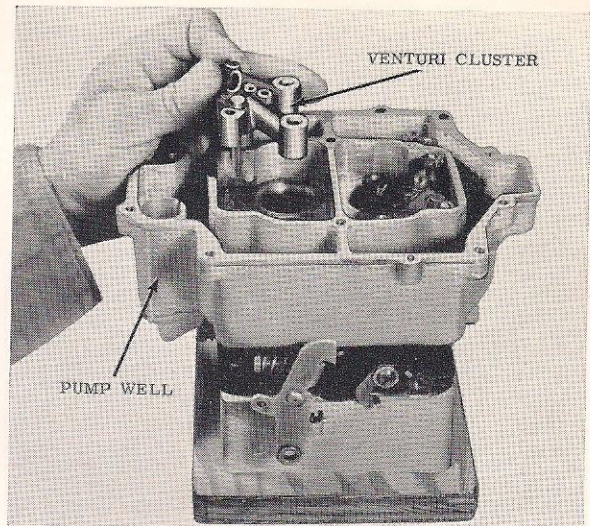

Figure 7-23
11. Install primary venturi cluster on pump side of carburetor with three retaining screws and lock washers. (Figure 7-23.) This cluster contains the pump discharge nozzles.